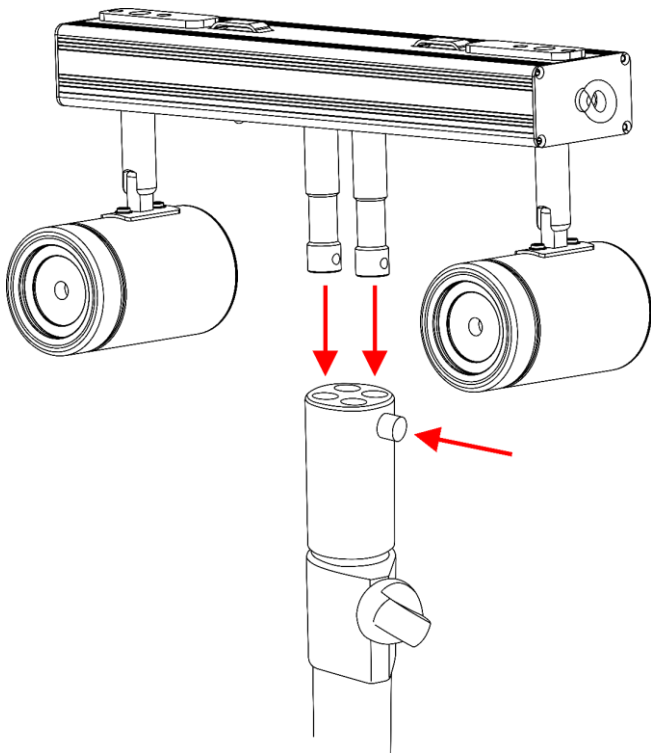

Fig. 09
- 01) Press and hold down the button on the WENTEX® telescopic upright (Fig. 09).
- 02) Put the **spigots (06)** into the openings on the WENTEX® telescopic upright (Fig. 09).